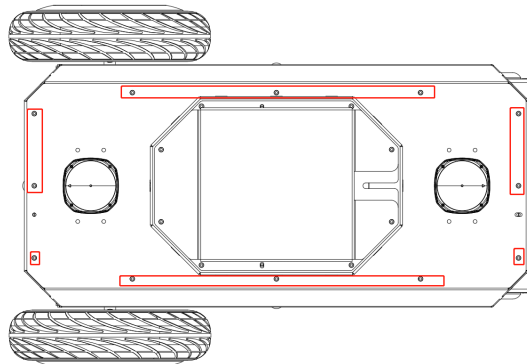

Figure 2
2. Use a 2.5mm hex wrench to remove the 12 M4 screws shown in *Figure 2*.